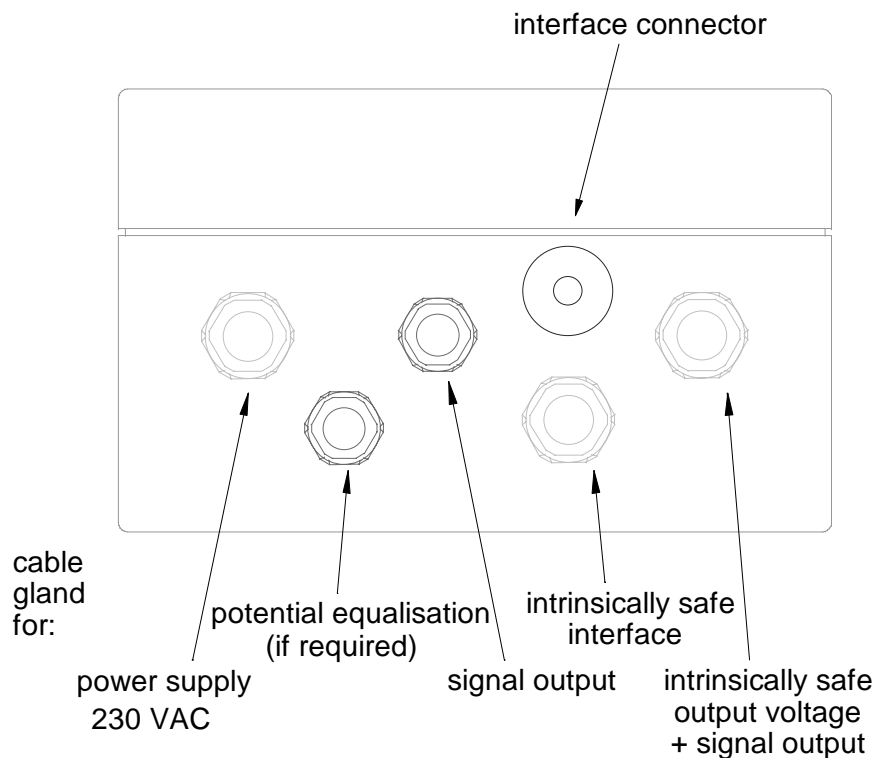

Fig. 2: Position of the interface connector and the cable glands
The connection is made on the round plug on the USV-88/X which is located at the cable gland (see Fig. 2: "Position of the interface connector.."). It is accessible after unscrewing the protective cap.
- To improve the interference immunity to high energy phenomena such as electrostatic discharge ("ESD") or lightning strikes in the immediate vicinity, a separate low resistance potential equalisation lead can be connected to the screw labelled "PE" in front of the terminals. A cable gland is provided for this purpose (see Figs. 2 and 3).